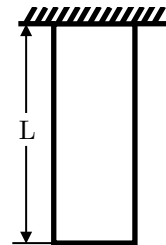

Figure 1: A Bar Undergoing Free Expansion
- Figure 1 shows a bar attached to a “ceiling.” This bar is subjected to an increase in temperature ΔT degrees Celsius. Draw a figure showing the elongation δ_T due to this increase in temperature. Write down the expressions for thermal strain ϵ_T and the elongation δ_T . (No explanations needed!)